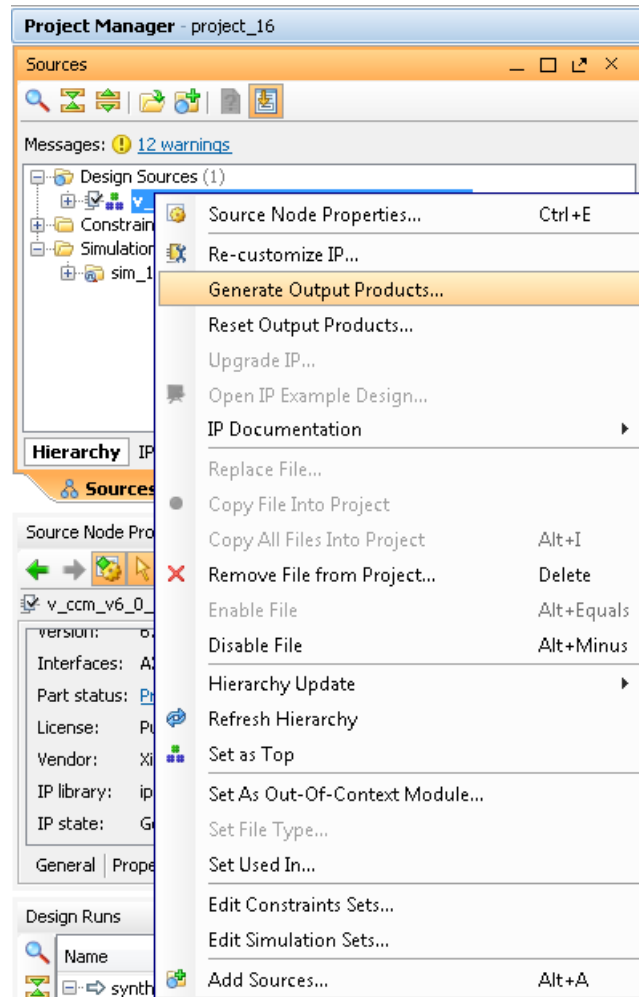

Figure 7-1: Sources Pane
1. After customizing the IP, right-click on the core instance in **Sources** pane and select **Generate Output Products** (Figure 7-1).